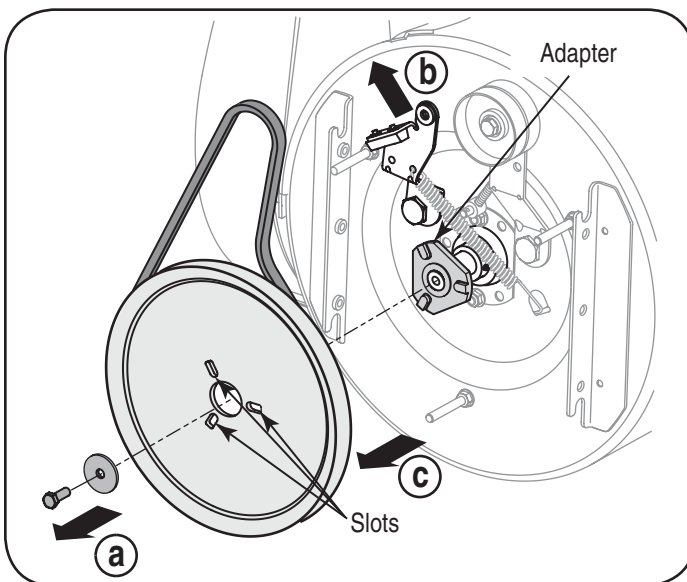

Figure 29
9. Block the impeller with a piece of wood to prevent it from spinning and use a 1/2" wrench to remove the hex screw and washer from the center of the pulley on the auger housing. See Figure 29.
10. Lift the brake bracket assembly out of the pulley groove and slide the pulley assembly off the posts of the auger pulley adapter to remove the old belt. Refer to Figure 29.
- Turn the pulley as necessary to align its three slots approximately with the posts of the pulley adapter, then move the brake bracket assembly away from the input shaft. While aligning the pulley slots and adapter posts, push the auger pulley fully onto the adapter. Refer to Figure 29.
NOTE: If the pulley adapter was removed with the pulley, align the splines of the pulley adapter and auger input shaft, and push the pulley and adapter onto the input shaft. Refer to Figure 29.